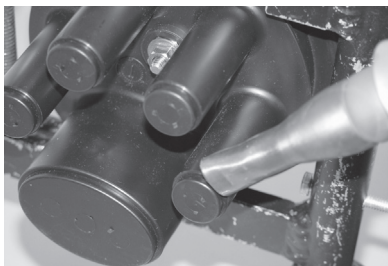

Figure 2
1. Heat port to soften plastic for opening. (Figure 2)